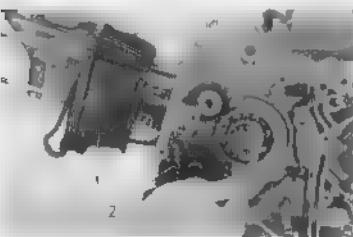

Fig. 3.48 Removing the cylinder
① Top compression ring
② Second compression ring
③ Oil ring
④ Sealing function
⑤ Oil scraping
2. Remove the cam chain ② from the timing sprocket and remove the cylinder ① together with the chain (Fig. 3.48).